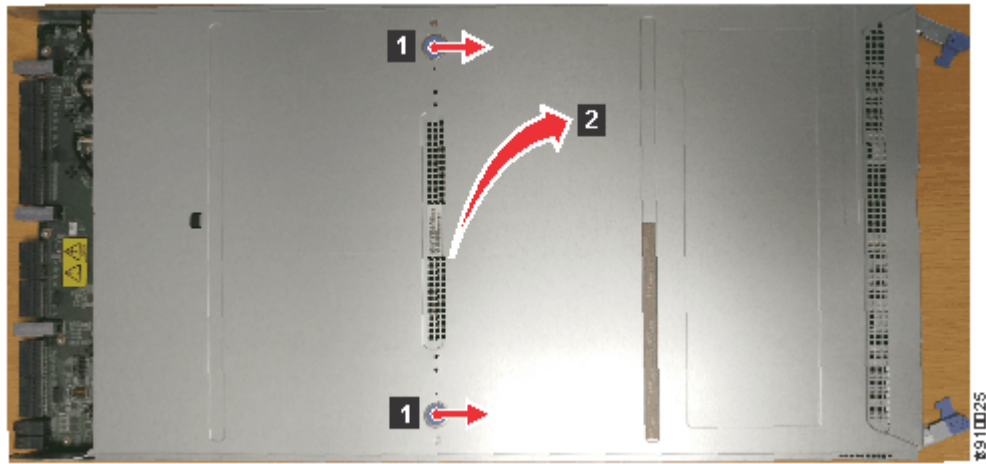

Figure 71. Removing the node canister cover
3. Open the cover of the node canister by depressing the recessed, blue touch points on the lid (1) and sliding the lid away from you (2), as shown in Figure 71 on page 127.